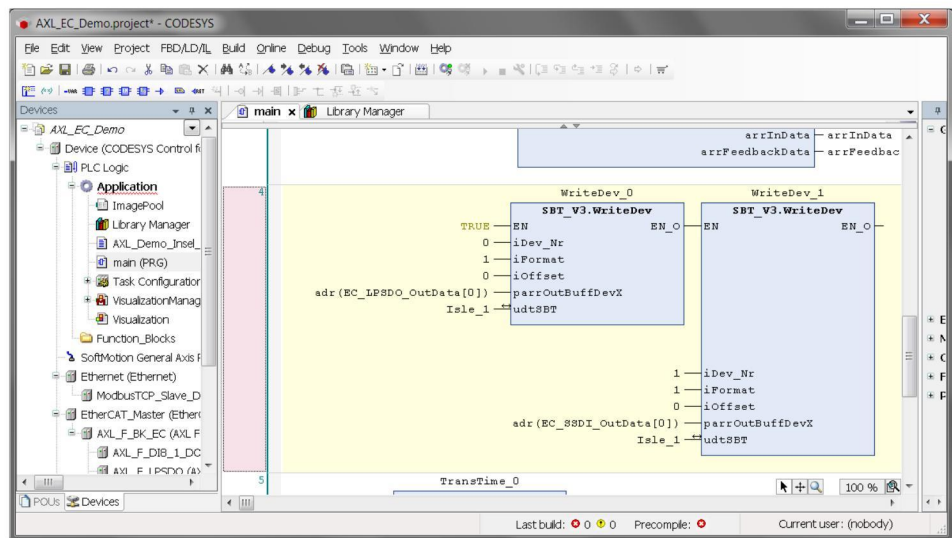

Figure 3-23 SBT_V3.WriteDev function blocks
- Connect the function blocks as shown in Figure 3-23.